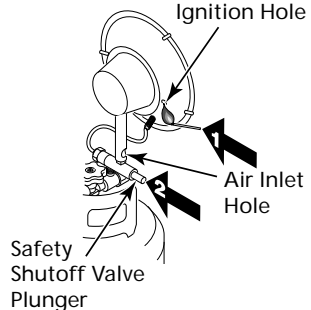

Figure 4 - Lighting Heater
3. Locate ignition hole in underside of burner (see Figure 4). Hold a lit match under ignition hole.
Push in the safety shutoff valve plunger (see Figure 4).